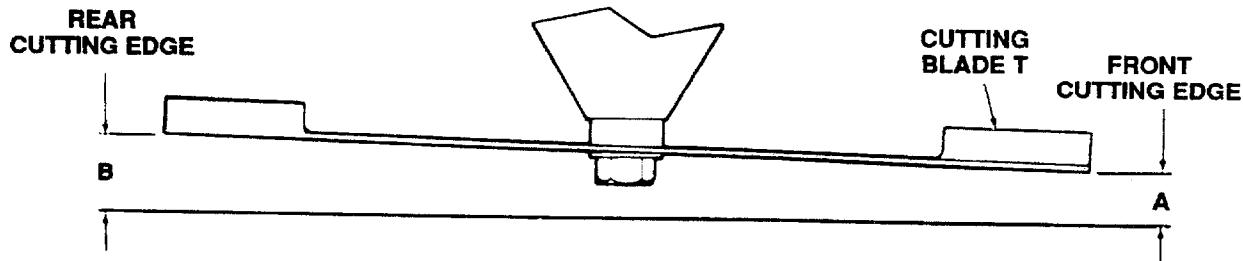

Figure 33
- Refer to Figure 33. Measure and record the distance from the front cutting edge to the ground (measurement A), and from the rear cutting edge to the ground (measurement B), for each of the outside blades. The front edge of each blade (measurement A) should be lower than its back edge (measurement B) by 1/16 to 1/8 inch.